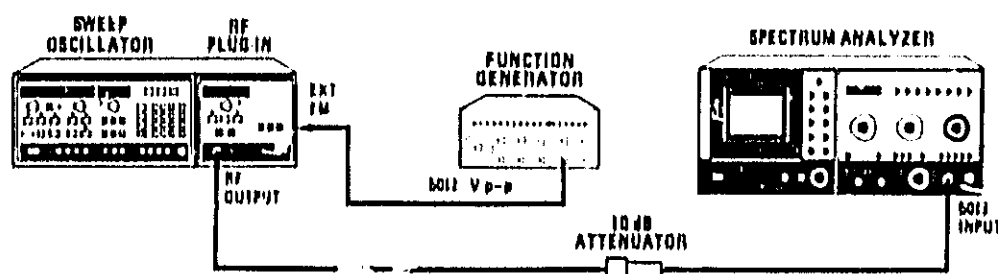

Figure 4-16. AM ON/OFF Ratio and Square Wave Symmetry Test Setup
1. Connect equipment as shown in Figure 4-16. Press 8350A INSTR PRESET CW 4 GHz and engage \square MOD. Set 83590A POWER LEVEL to +10 dBm.